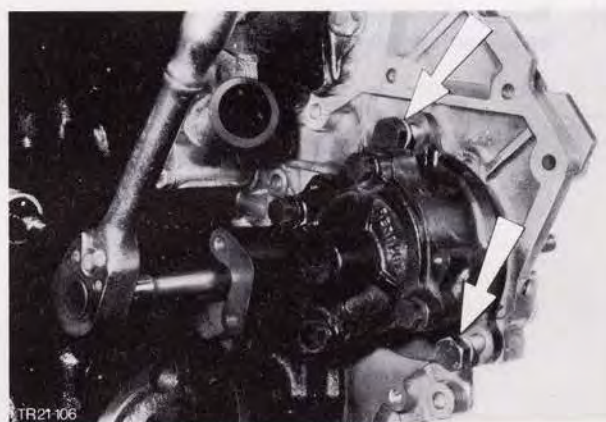

Fig. 54. Remove vacuum pump
26. Remove vacuum pump bracket and pump from intermediate plate (3 bolts) Fig. 54.